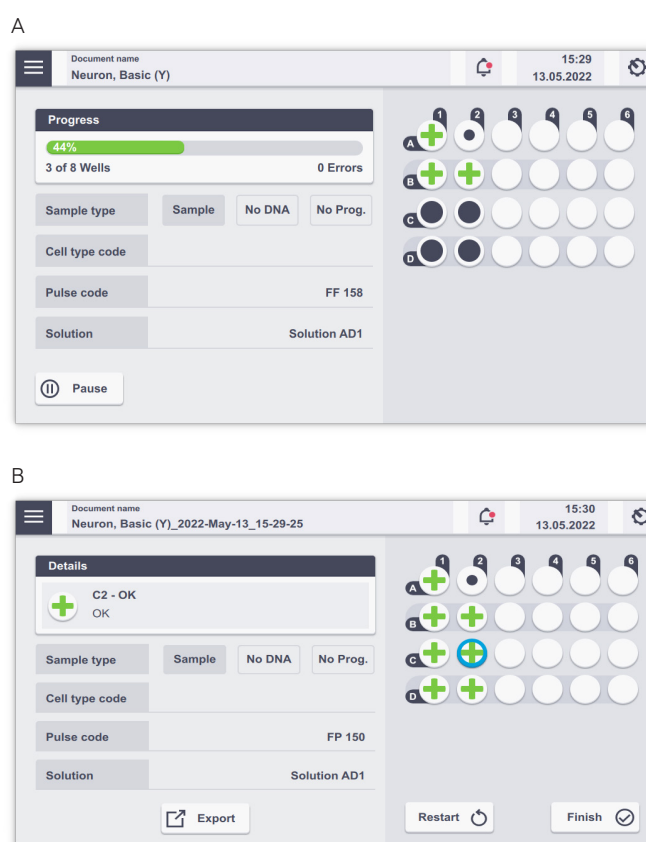

Figure 2.27: (A) Nucleofection® Progress (Y Unit). (B) Result Screen. Select wells to receive result details.
2. The progress of the experiment is indicated by changing the color of the cuvette or well positions (Figure 2.27 A; for color codes, see chapter 4).
3. When the experiment is complete, a result file summarizing the Nucleofection® Process will be displayed (Figure 2.27 B).